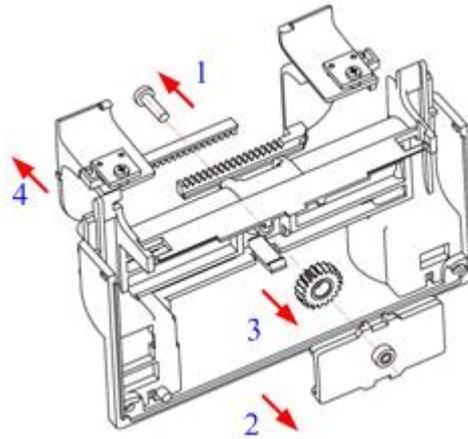

Fig. 5.1-3 Mark sensor cleaning
- 2) Remove the paper guide fixing screws, transmission gear, protective plate and paper guide block in the order and directions shown in the Fig. 5.1-3;